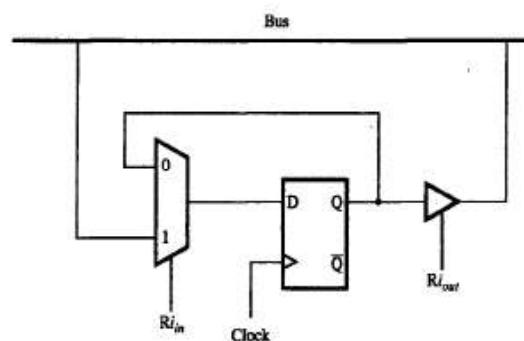

Figure 7.3 Input and output gating for one register bit.
- $Ri_{in}=0 \rightarrow$ mux feeds back the value currently stored in flip-flop (Figure 7.3).